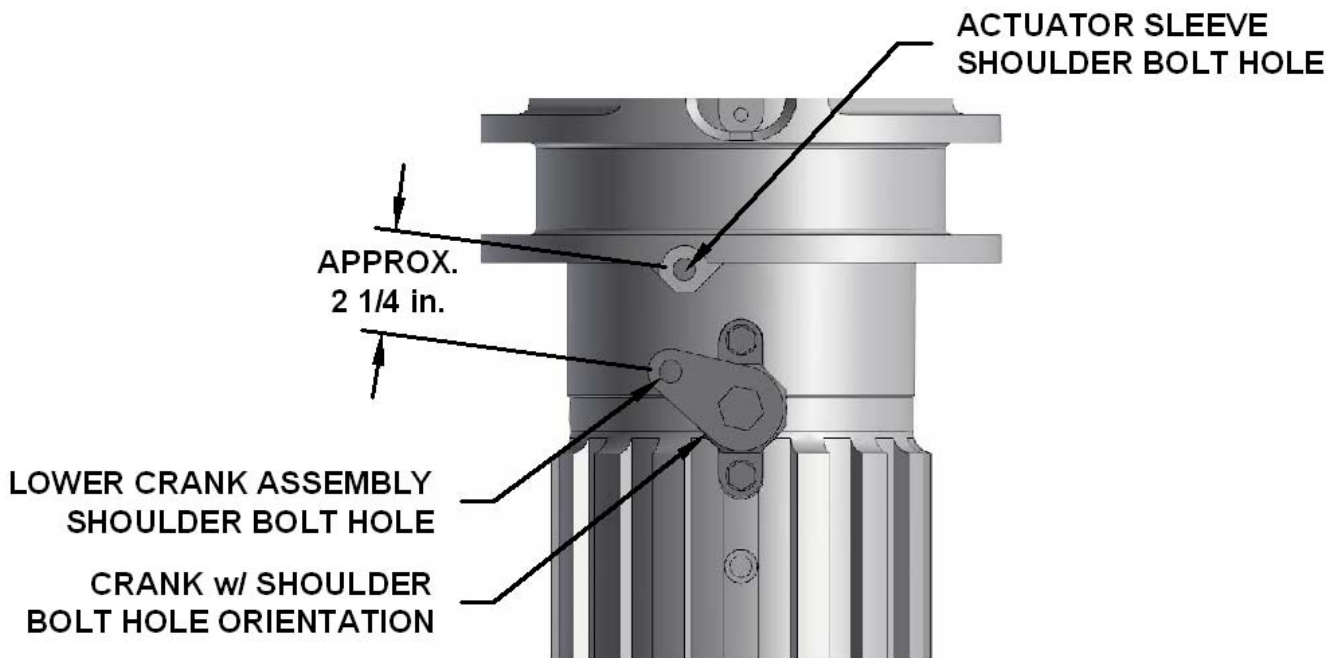

**Figure 4**
2. Remove the stem lock plates from the lower ball stem holes. Manually close the lower ball (see **Figure 4**).